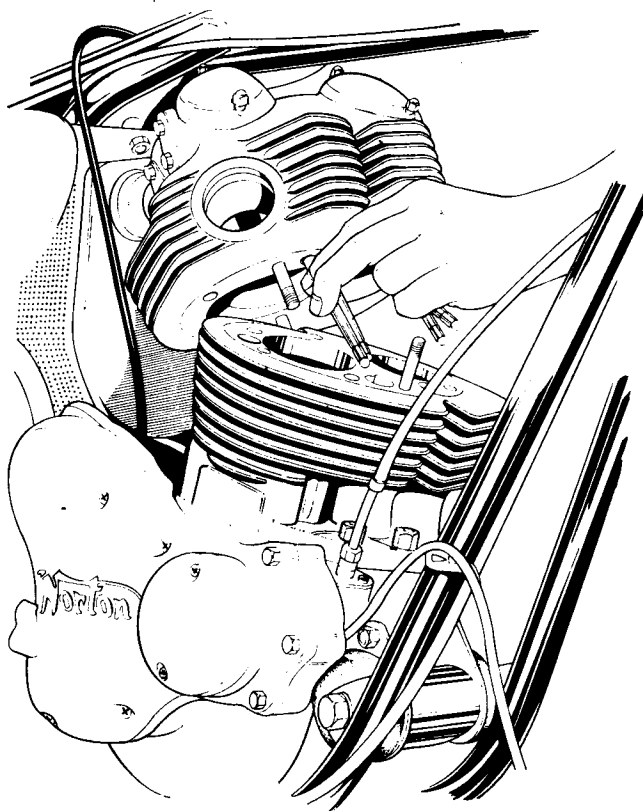

Fig. C3 Tilting cylinder head with pushrods held into cylinder head.
- 13 Lift the cylinder head from either side of the motor-cycle, support with one hand and slide the pushrods as far as possible into the cylinder head. *Fig. C3* shows the cylinder head tilted to the rear to facilitate the operation.